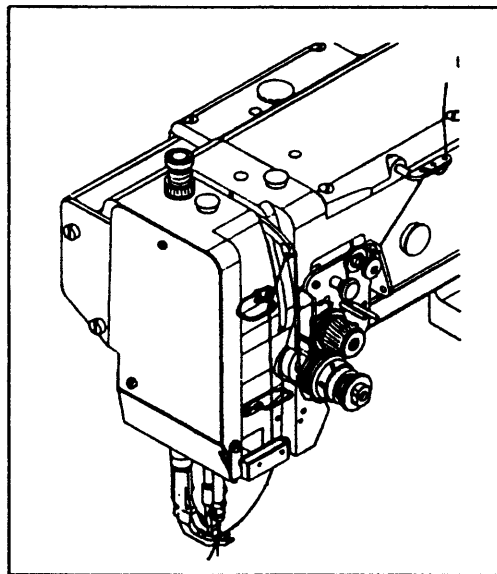

Fig.4
9. How to route the upper thread (Fig.4):